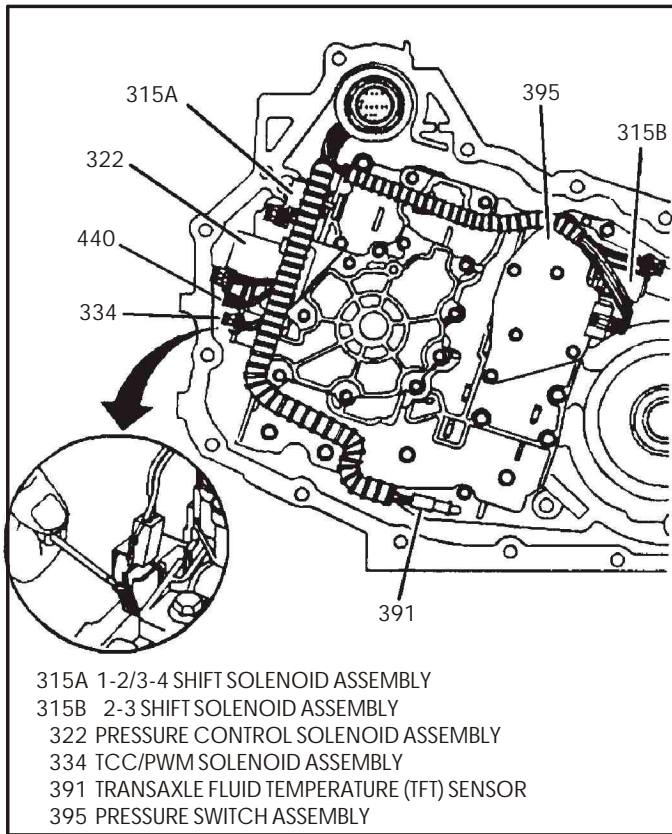

Figure 45
4. Using a small screwdriver, pry the tab out on the wiring harness electrical connectors and remove the connector on each of the internal components listed in Figure 45.
5. Gently pull the Transaxle Fluid Temperature (TFT) sensor (391) from its retaining clip, as shown in Figure 45.